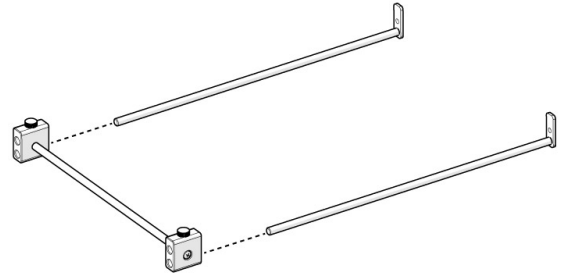

Figure 5. Panel extension poles
- Step 2.** Insert the two straight panel extension poles into the bottom holes of the adjustment blocks (see Figure 5).